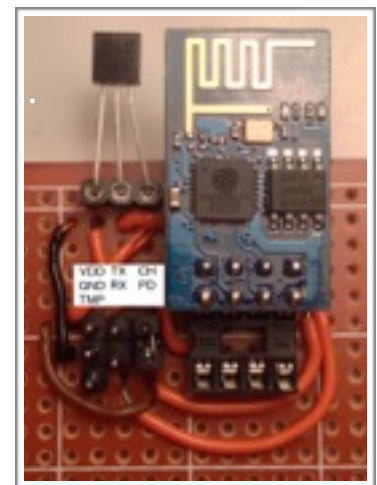

Figure 2: board with pinout
- The **DS18S20** should be inserted in the socket on the top of the board. Make sure that the flat part is facing **up**. (see **Figure 1.2** and **Figure 2**)
Following the diagram (Figure 2), connect the **VDD** and **GND** pins to the corresponding (3.3v) pins on your power supply. In case of using a serial port, connect the pins to the serial port's **3.3v** and **GND**.